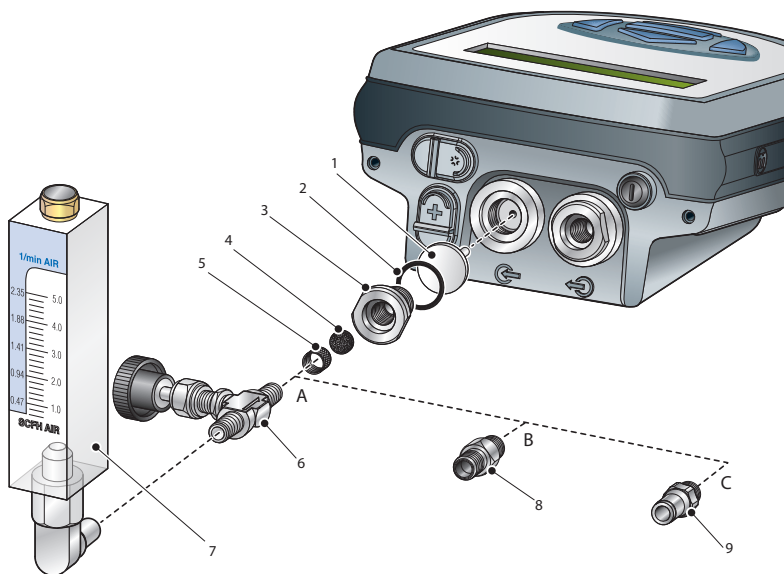

Figure 3.4 - Examples of gas coupling types
3.5 Instrument gas connections (Figure 3.4)
Sample gas connections are made via the Gas in and Gas out ports located on the rear of the instrument as shown in Figure 3.4. Each of these ports is equipped with an adaptor (3) which screws into each gas port.
Note: Items 8 and (9) on Figure 3.4 are not supplied with the instrument and are illustrated only to show different examples of the types of gas coupling available.